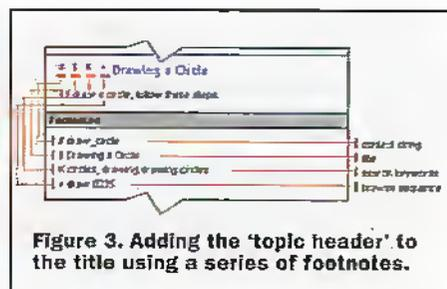

Figure 3. Adding the 'topic header' to the title using a series of footnotes.
6 $\mu$ m, and it is generally two-thirds that or less. The particles are then aligned in the desired orientation by passing the tape through a magnetic field whilst drying. For VHS/S-VHS this will normally be longitudinally; but for the formats that use MP tape with wavelengths of around 0.5 $\mu$ m the orientation will normally be diagonal when viewed in cross section – tilted relative to the surface. This is because the magnetic field from the recording head contains perpendicular elements (Figure 3), and as the wavelength gets shorter these elements become more important and, in vector combination with horizontal components, result in an increase in the number of diagonal components.
4. Type the appropriate information for the footnote. Examples are shown in Figure 3.